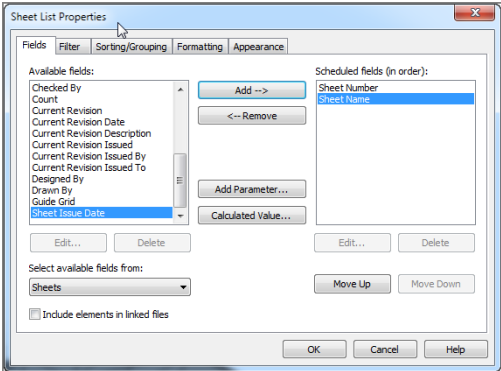

FIGURE 14.24: Adding Sheet Number and Sheet Name (in that order)
- 2. In the Sheet List Properties dialog, add Sheet Number and Sheet Name, as shown in Figure 14.24.